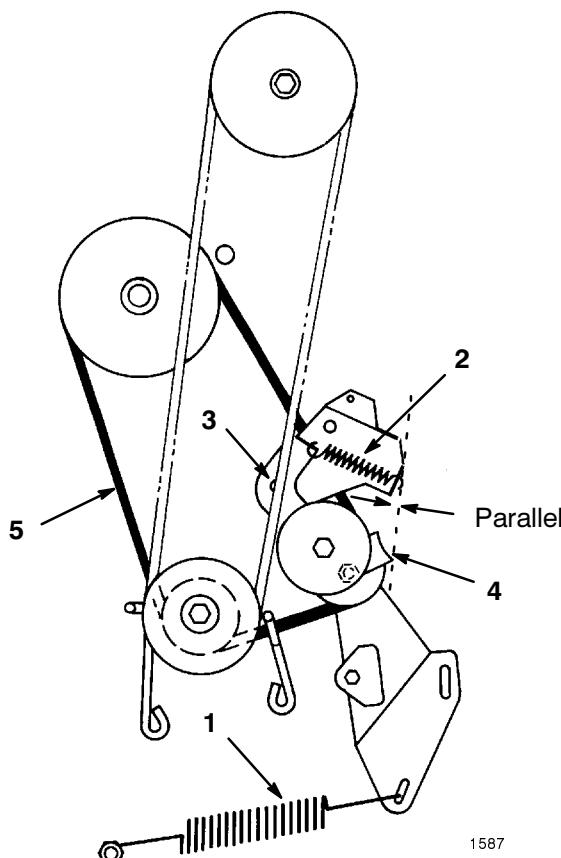

Figure 27
7. Unhook large traction spring from mounting screw (Fig. 27). Use caution when removing spring as it is heavily tensioned.
8. Unhook idler spring from idler bracket (Fig. 27).
9. Remove locknut and washer securing idler bracket to frame and remove bracket (Fig. 27).
10. Loosen the locknut on pulley until belt guide can be removed (Fig. 27). Remove belt from all pulleys.
Note: When reinstalling belt guide to idler pulley, make sure edge of belt guide is parallel to the frame as shown in Figure 27.